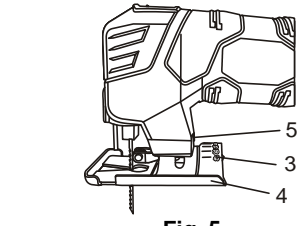

Fig. 5
2. Bevel angles (3) are marked on a scale located on the rear of the base (4) (Fig. 5).
3. Slide the base toward the front of the detail saw and align the bevel angle index mark (5) with the desired bevel angle on the base.